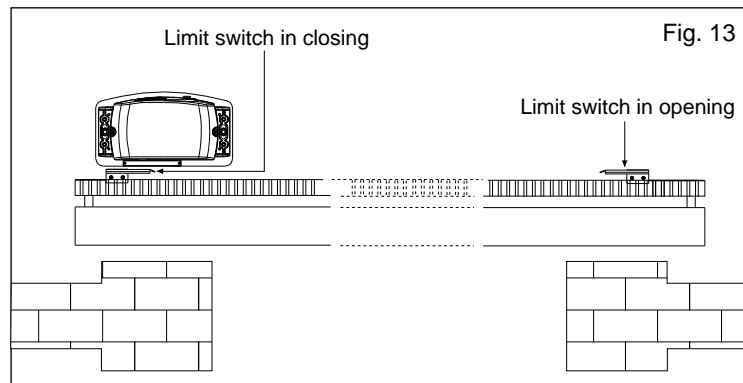

Fig. 13
**7.1.** In order to install and adjust the limit switch in opening, follow the below mentioned instructions (Fig. 13):
**7.2.** In order to install and adjust the limit switch in closing, follow the below mentioned instructions (Fig. 13):